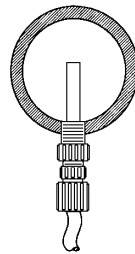

Figure 4
8. Pipe corrosion can result if dilution at the injection point does not occur rapidly. This problem can be prevented by observing this simple rule: Install an injection fitting so that the end is in the center of the flow stream of the line being treated. Trim the injector tip as required. Refer to *Figure 4*.